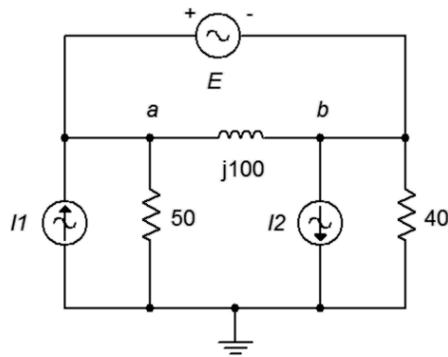

Figure 6.35
70. Given the circuit in Figure 6.35, determine  $v_{ab}$ .  $I1 = 1.2\angle 0^\circ$ ,  $I2 = 2\angle 120^\circ$ ,  $E = 75\angle 0^\circ$ .